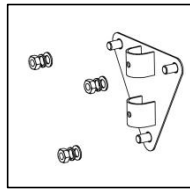
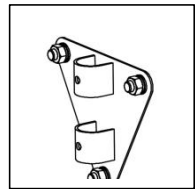

Fig.3.
Fig.4.
3.Install the wall panel (2) on the wall and lock three the nut (3). You may need to use a small wrench.See the (Fig.3.)(Fig.4.)